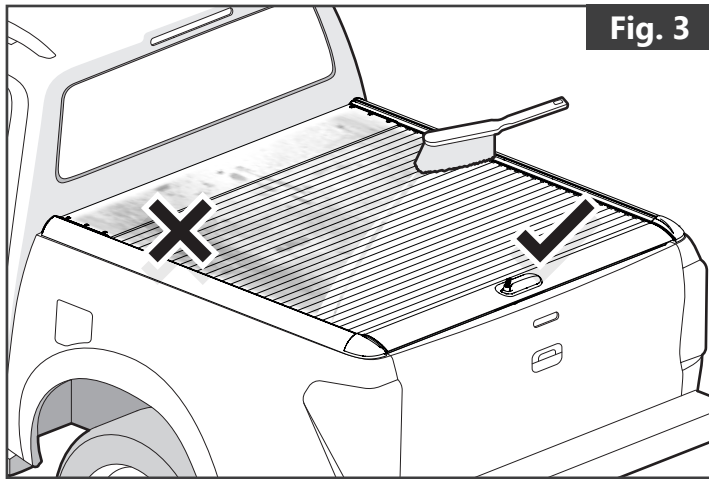

Fig. 3
- If the cover is closed and has water, snow, ice or dirt on the cover, it might enter into the bed as the cover retracts. To avoid this, clean off the top surface of the cover prior to opening. **(Fig. 3)**